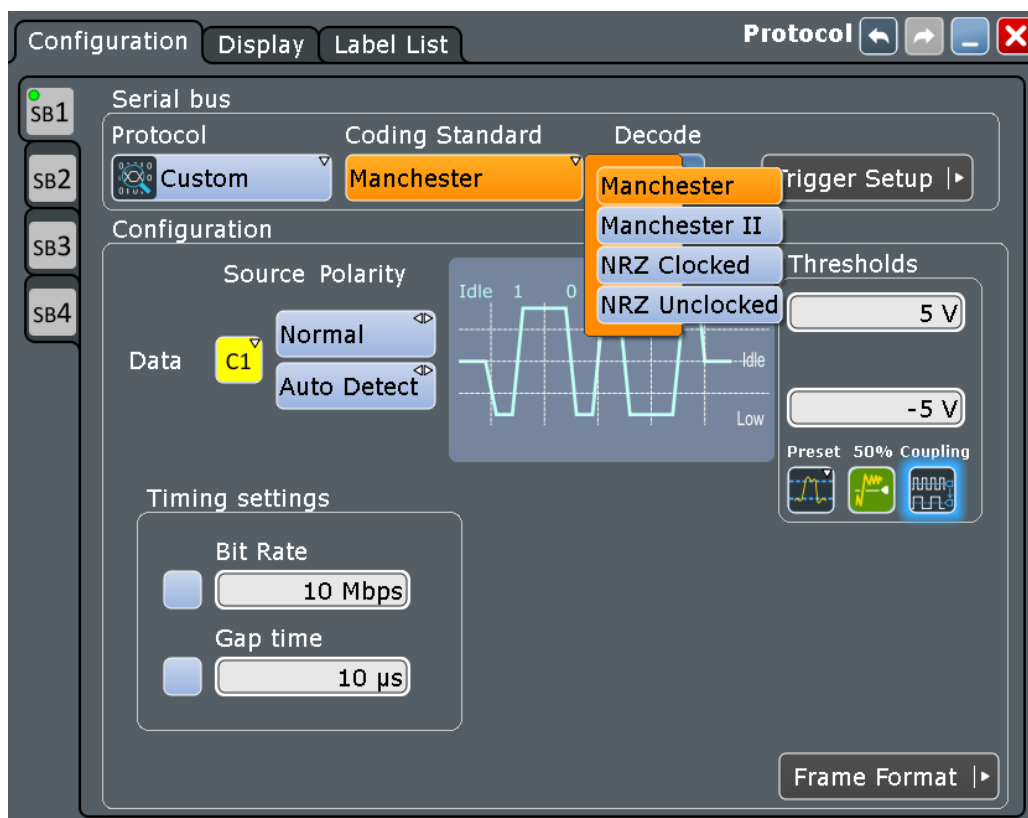

Figure 12-83: Coding standard selection in the serial bus protocol configuration dialog
- "Manchester" Selects the coding standard Manchester. Optional "Timing settings" are "Bit Rate" (default: disabled, 10 Mbit/s) and "Gap time" (default: disabled, 10 μs), as shown in Figure 12-83.
Optional "Timing settings" are "Bit Rate" (default: disabled, 10 Mbit/s) and "Gap time" (default: disabled, 10 μ s), as shown in Figure 12-83.